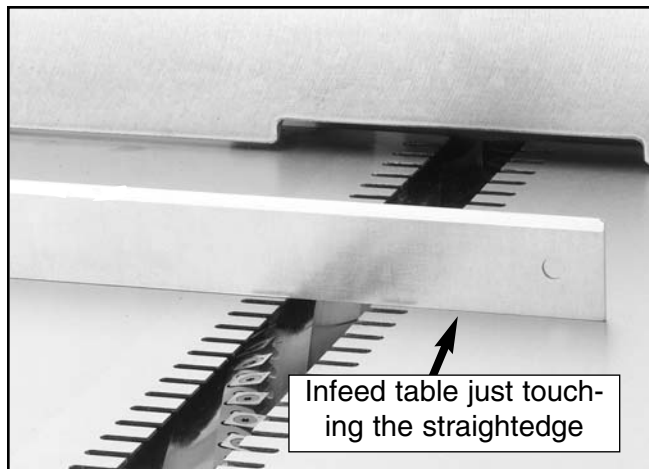

Figure 44. Properly adjusting the infeed table before setting the depth-of-cut scale.
6. Turn the infeed table handwheel to raise or lower the outfeed table until it just touches the straightedge as shown in **Figure 44**.